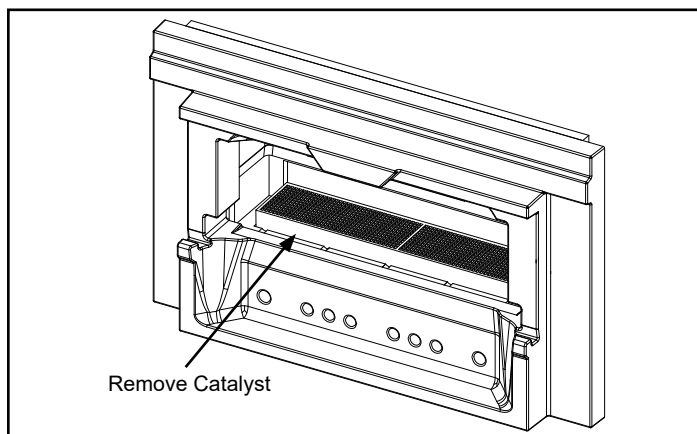

Figure 5.11 - Remove catalyst.
3. Remove the catalyst by gently pickin up and pulling straight out, Figure 5.11. Place the catalyst where the catalyst's ceramic components will not be damaged.